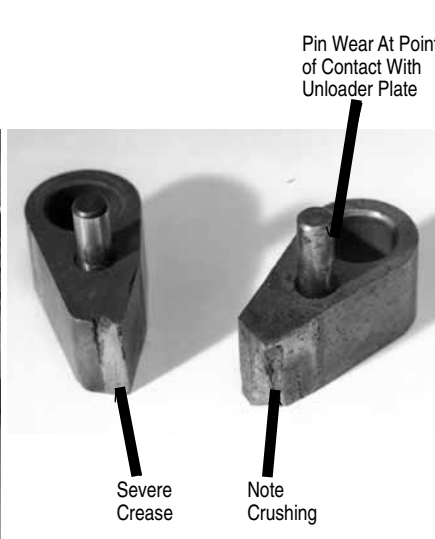

FIG. 3
must be checked and replaced if they show any evidence of creasing, chipping, or cracking. The ratchet teeth on the forged heat treated shaft (P309-0791) must be checked for missing or damaged teeth, and replaced if necessary. Refer to Fig. 3 & 10.
- (3) The handle dog (pawl) should be examined for damage as outlined in part (2), and in addition, the dog pin (19315) should be examined for bending or wear in the area that the pin contacts the camming surface of the unloader plate. Refer to Fig. 3 & 4.
- (4) Stop bolt 19673. Check for bending or breakage. Replace if necessary.